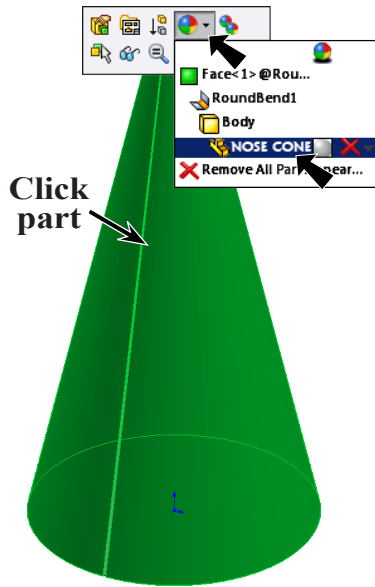

Fig. 11
Step 1. Click the Nose Cone, click **Appearance Callout**  on the Context toolbar and click **NOSE CONE** , Fig. 11.